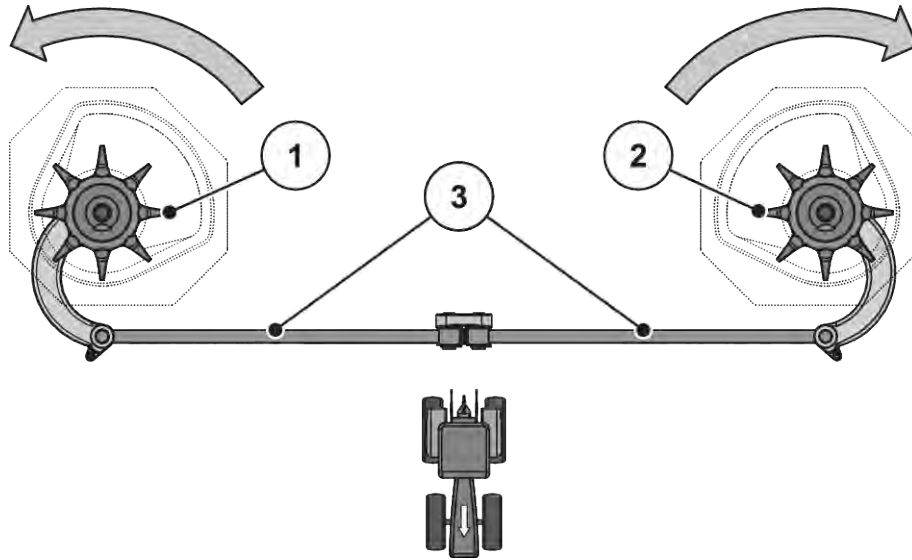

Fig. 52: Checking the agitator drive
- Manually turn the agitator head **into the rotational direction of the spreading disc**. See Fig. 52 Checking the agitator drive.
- Turn the agitator head manually or with the help of an oil filter belt forcefully **against the rotational direction of the spreading disc**. See Fig. 52 Checking the agitator drive